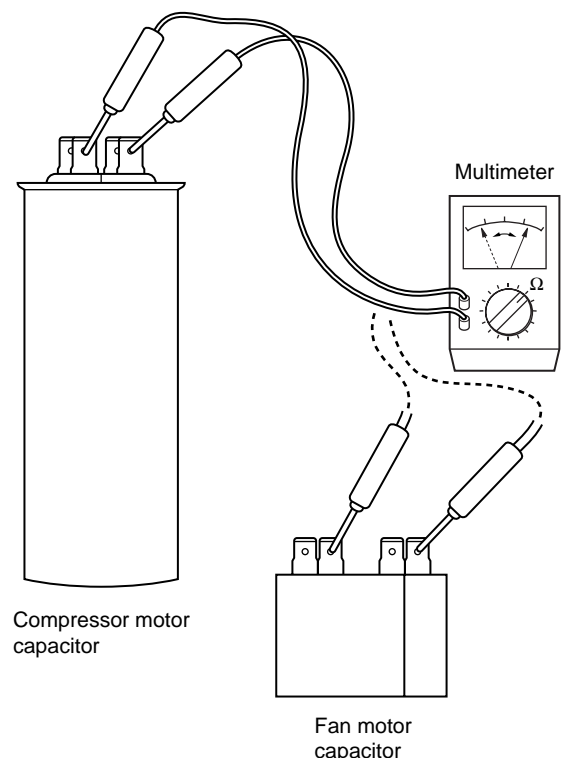

Fig. 18
- ⑤ **Motor capacitor Both in indoor and outdoor unit**
- Remove the lead wires from the capacitor terminals, and then place a probe on the capacitor terminals as shown in **Fig. 18**. Observe the deflection of the pointer, setting the resistance measuring range of the multimeter to the maximum value.